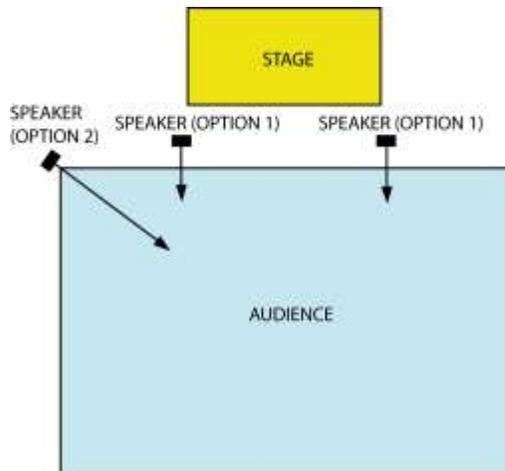

Figure 1. Typical speaker placement for a touring musician.
OK, you've assembled a sound system and it's time to locate the speakers. Typically, touring musicians place the speaker stands near the audience on either side of the stage (see Figure 1 below). This positions the speakers toward the "dead" rear of your cardioid microphones and reduces the potential for feedback. Try to place the speakers far from the mics and close to the audience.
one front corner of the audience, shooting across to the opposite corner (Figure 1, option 2). Also, stack the two speakers vertically (horn to horn) which narrows their coverage angle in the vertical plane. Clamp them solidly together. The advantages of this arrangement are: (1) no comb filtering from hearing two speakers at different distances, and (2) a clearer sound with less reverb because of reduced ceiling reflections.